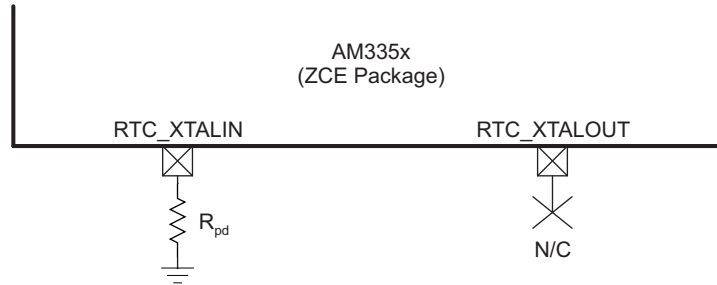
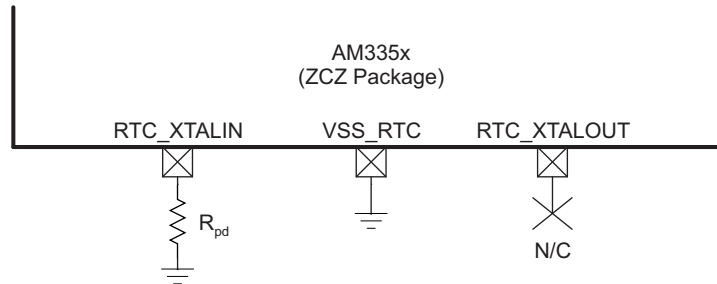

Figure 4-16. OSC1 (ZCE Package) Not Used Schematic
Figure 4-17. OSC1 (ZCZ Package) Not Used Schematic
Figure 4-16 shows the recommended oscillator connections when OSC1 of the ZCE package is not used and Figure 4-17 shows the recommended oscillator connections when OSC1 of the ZCZ package is not used. An external 10 kΩ maximum pull-down resistor should be connected to the RTC_XTALIN terminal to prevent this input from floating to an invalid logic level which may increase leakage current through the oscillator input buffer. The RTC_XTALOUT terminal is a no connect (NC).